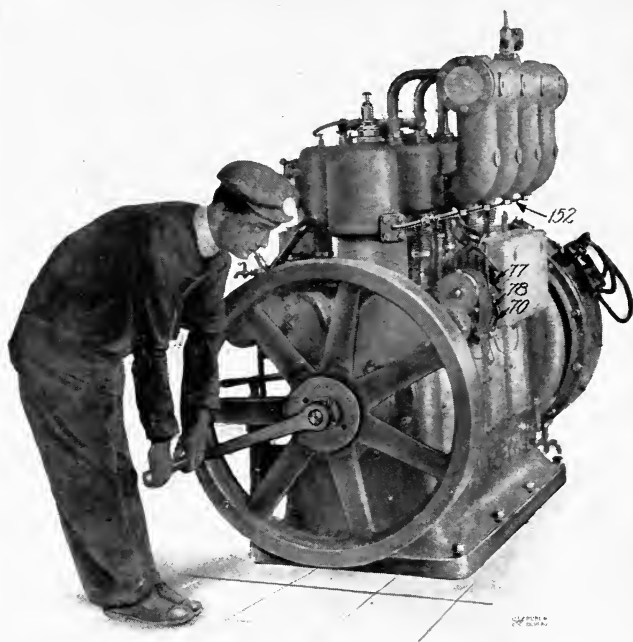

Fig. 7.—Correct method of cranking.
1. Place ignition switch (part 77 *Eisemann* and *G. E. magnetos*, part 1038 *Splitdorf magneto*) in “off” position (see fig. 7; also par. 17).
15. Engage crank as in fig. 7 and **pull up, never push down**. Repeat until engine starts (*see pars. 25c, 28e, 28f, and 29d*).